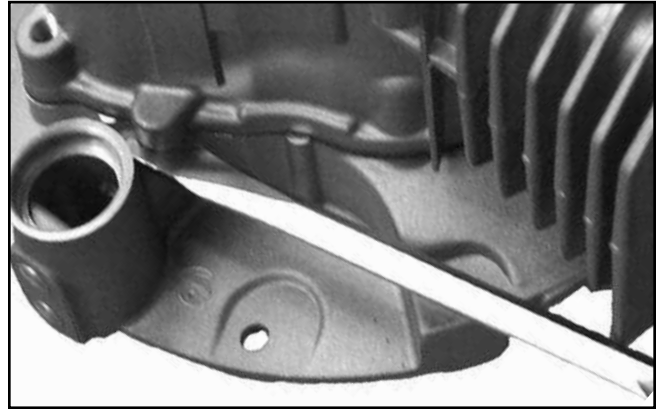

Figure 8-47. Separating Oil Pan from Crankcase.
2. Using a flathead screwdriver as a wedge, carefully separate the oil pan from the crankcase. See Figure 8-47.